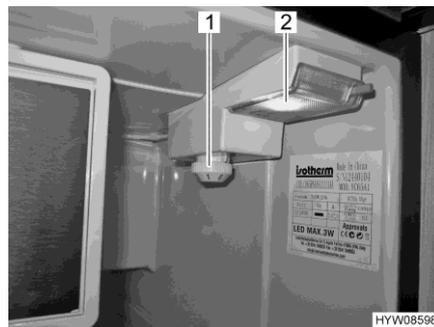

Fig. 92 Operating control (refrigerator)
- Rotate the temperature controller (Fig. 92,1) clockwise from the "0" position to the "1" position. The device is switched on, the interior lighting (Fig. 92,2) is on.
Switching off: ■ Rotate the temperature controller (Fig. 92,1) anti-clockwise to the "0" position. A small amount of resistance will be felt.
Adjusting the temperature: ■ Set the temperature with the temperature controller (Fig. 92,1).